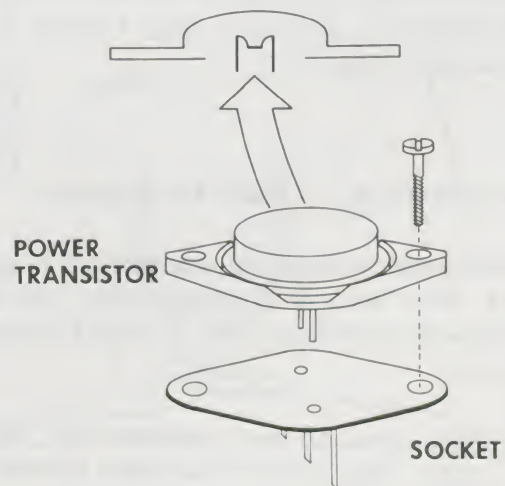

Figure 6.
The power transistor you will be using is shown in Figure 6. The transistor junctions are inside a metal case for protection. The base (B) and emitter (E) terminals are pins and the collector (C) terminal is the case. A socket has been provided for your convenience in making connections.